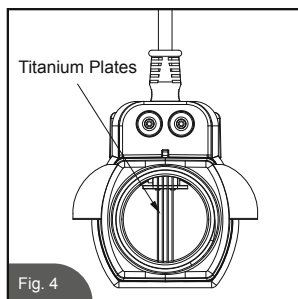

Fig. 4
4. Look inside the electrolytic cell to inspect for scale formation (light colored crusty or flaky deposits). If yes, go to step 5, otherwise, go to step 6. (See Fig. 4)